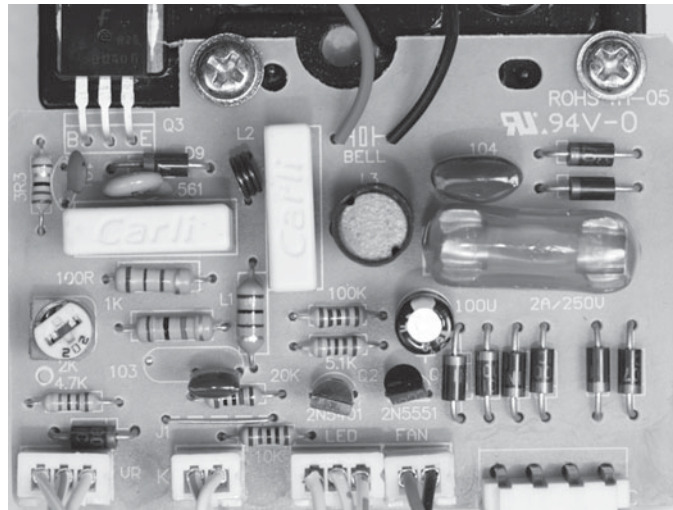

FIGURE 7-3 Main circuit board layout
The layout of the main circuit board is clean and relatively spacious; you shouldn't have any trouble probing component leads. As a bonus, the component side of the board, shown in Figure 7-3, is marked with component values. As you can see, the board contains traditional leaded components. The connectors along the bottom edge of the board, from left to right, are for the control potentiometer (VR), the magnetic reed switch (K), the bicolor LED (LED), the fan (FAN), and power (C).